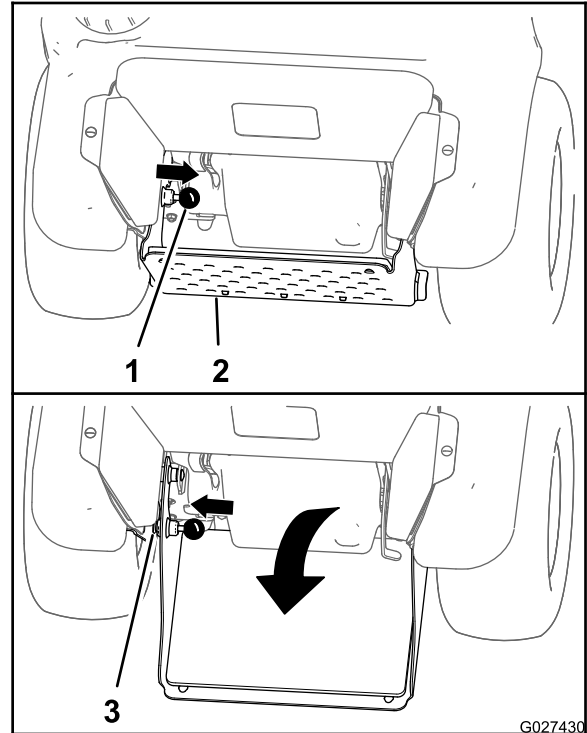

Figure 18
1. Pull the platform-lock knob inward until the pin of clears the upper hole in the chassis (Figure 18).
2. Rotate the operator's platform down until the pin of the platform lock aligns with the lower hole in the chassis (Figure 18).
3. Move the platform-lock knob outward until the pin protrudes through the lower hole (Figure 18).
1. Pull the platform-lock knob inward until the pin clears the upper hole in the chassis (Figure 18).
2. Rotate the operator's platform up until the pin of the platform lock aligns with the upper hole in the chassis (Figure 18).
3. Move the platform-lock knob outward until the pin protrudes through the upper hole (Figure 18).